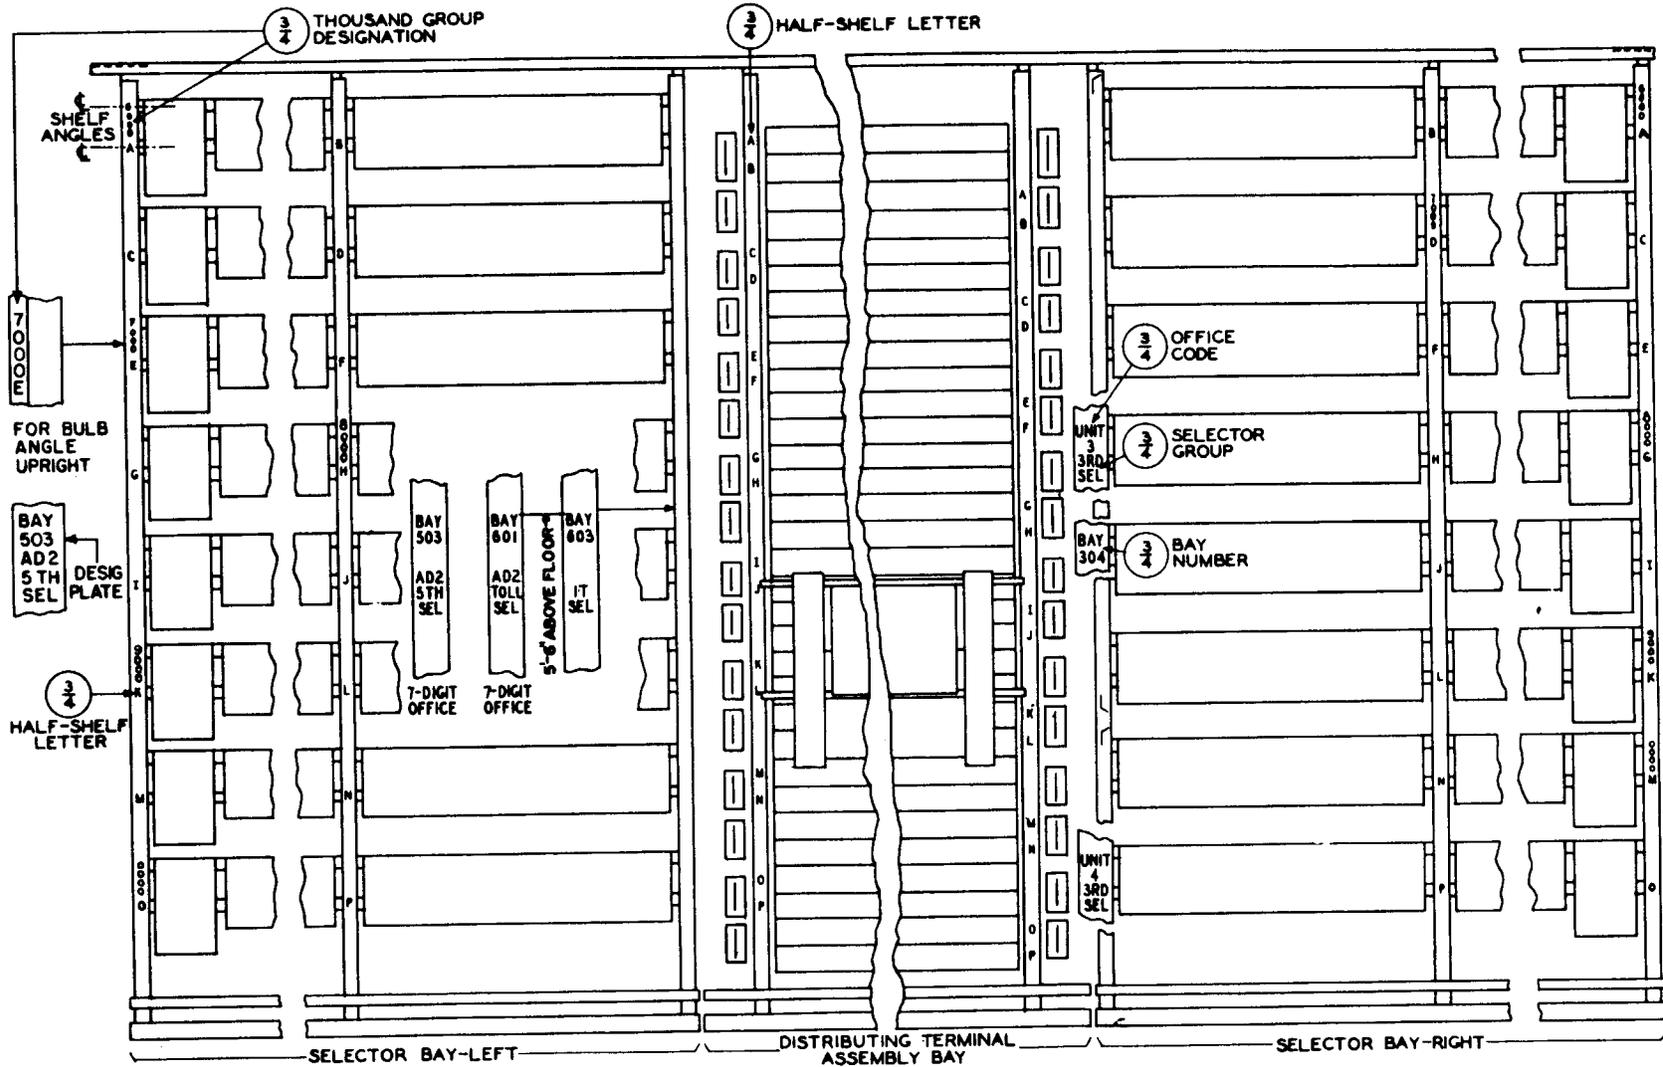
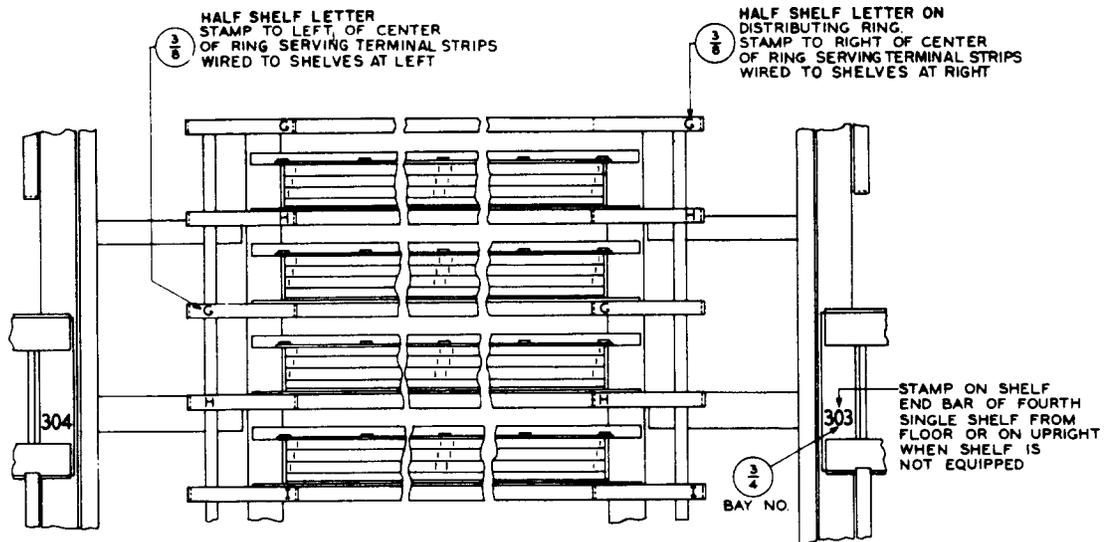
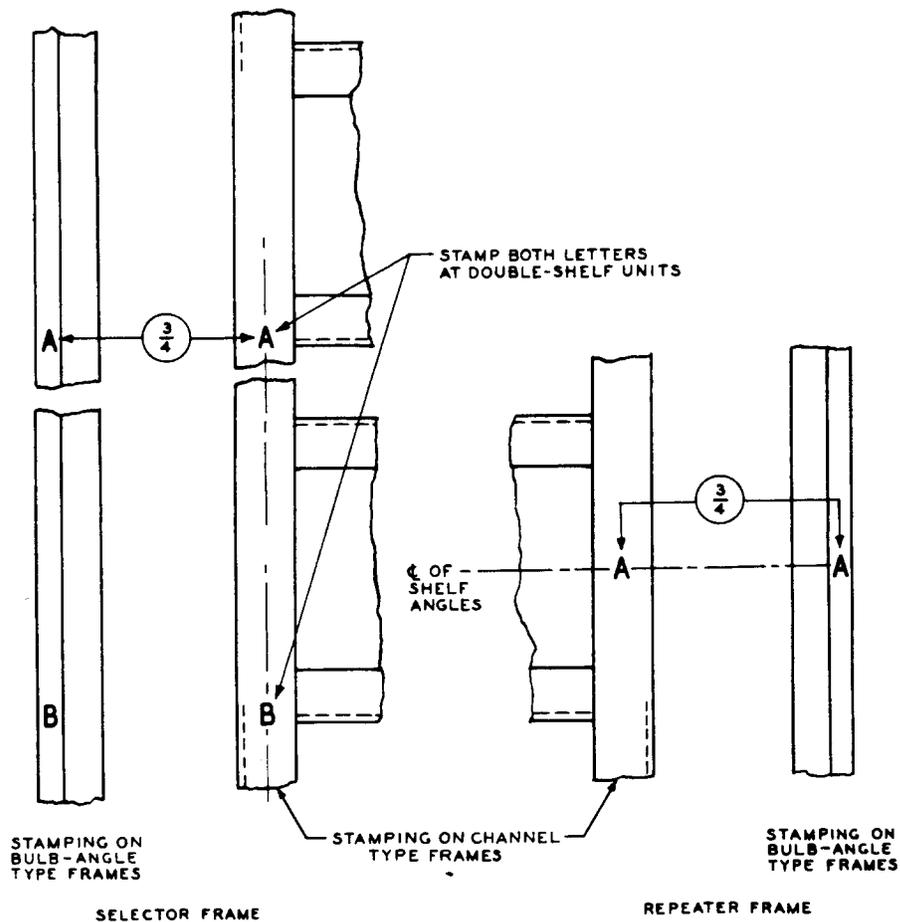

Fig. 28 - Designations on Front of Step-by-Step Selector Frames With Distributing Terminal Assembly
Fig. 29 - Designations on Rear of Step-by-Step Selector Frames With Distributing Terminal Assembly
Fig. 30 - Shelf Letters on Step-by-Step Frames
→ (See Fig. 28.)
(b) In addition, *on the rear of selector frames with distributing terminal assemblies*, the bay number only shall be stamped for each bay. This stamping shall be placed on the shelf end bar adjacent to the distributing terminal assembly bay on the fourth single-shelf position from the floor as shown in Fig. 29. If this shelf is not equipped, the designation shall be stamped on the bay upright in the same location.
(b) When the unit designation does not apply to all of the shelves in the bay, it shall be stamped opposite the middle of the group of shelves to which it applies and the units indicated by brackets. When applicable to only one shelf, brackets are not required. (See Fig. 28.)
(b) When the selector group designation *does not apply to all selectors* in the bay, stamp opposite the middle of the group of shelves to which it applies and use brackets to indicate the extent of the group. When applicable to only one shelf, brackets are not required. (See Fig. 28.)
at the top and proceeding left to right on a left selector bay and right to left on a right selector bay facing the front of the frame. Shelf letters shall be stamped on the front of the right frame upright at each shelf position on repeater frames, while on selector frames without distributing terminal assembly, they shall be stamped on the front of the left frame upright at each shelf position. (See Fig. 30.) On selector frames with distributing terminal assembly, half-shelf letters shall be stamped on the front of the frame upright at the left of each half-shelf position in the left selector bay and on the front of the frame upright at the right of each half-shelf position in the right selector bay. (See Fig. 28.)
2.44 On the distributing terminal assembly bay, stamp associated half-shelf letters applying to the bank terminal strips on the fronts of the left and right uprights, as shown in Fig. 28. On the rear of the bay, stamp the half-shelf letter on each distributing ring (whether corresponding bank terminal strip is furnished or not), as shown in Fig. 29. This applies, whether the bay is equipped with single- or double-shelf equipment.
- (b) **On selector frames with a distributing terminal assembly,** stamp on the front of the left upright on bays at the left of the distributing terminal assembly and on the front of the right upright on bays at the right of the distributing terminal assembly, opposite the first half shelf in each group on each bay, as shown in Fig. 28.